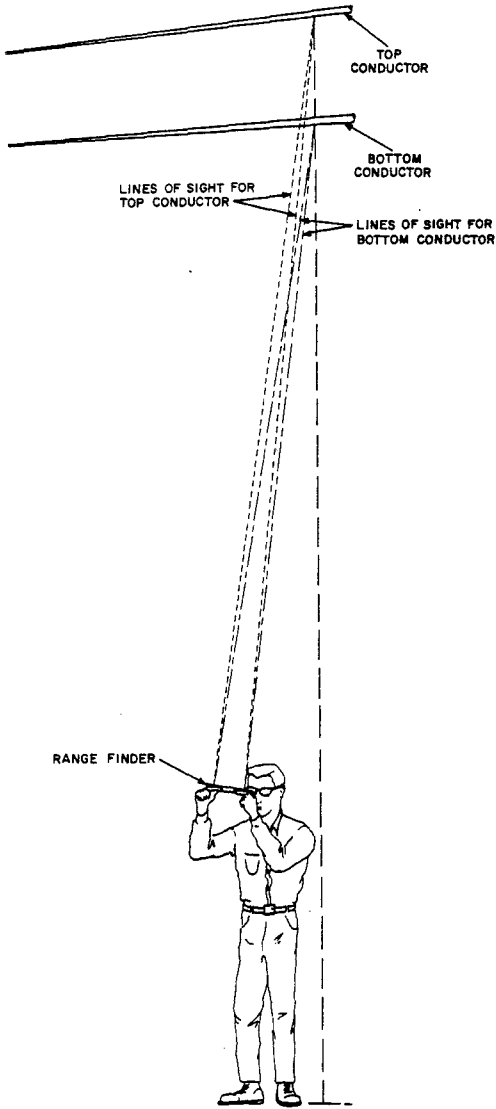

Fig. 5—Measuring Vertical Separation of Parallel Wires With Range Finder
2.09 When measurements involve open wire, it is preferable to select wires at the outer end of a crossarm, to avoid confusion when making the measurement. Stand aside from the vertical plane of the two wires or cables being measured just enough to permit viewing each wire being measured (Fig. 5).